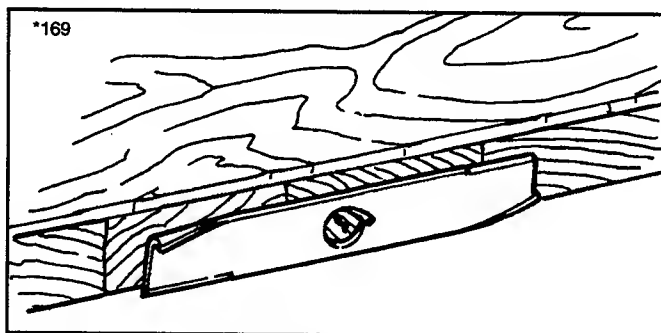

Figure 21 Balancing The Blade
5. Balance the blade as shown in figure 21. Center the blade's hole on a nail lubricated with a drop of oil. A balanced blade will remain level.